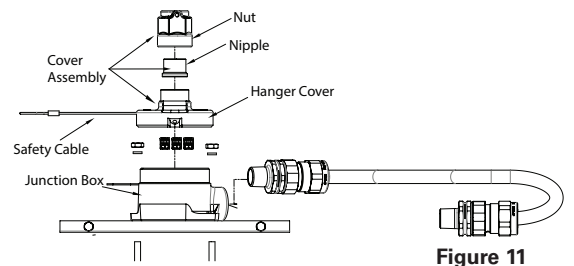

Figure 11
10. Remove the cover assembly from the junction box (see Figure 11).
14. With the nut fully tightened screw the cover assembly onto the conduit support until the conduit and nipple are fully engaged (See Figure 11).